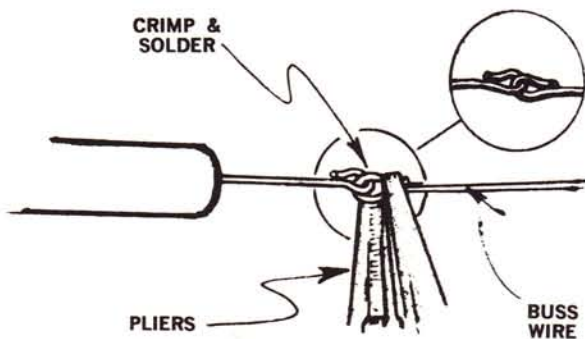

FIGURE 3
1. Cutting a wire or lead too short — If you cut the wire from one of the components too short you can easily correct it by taking a small piece of uninsulated wire (buss wire) and splicing it on as shown in Fig. 3. If a wire supplied is damaged, you can cut off a replacement from the 2 feet of spare wire supplied.